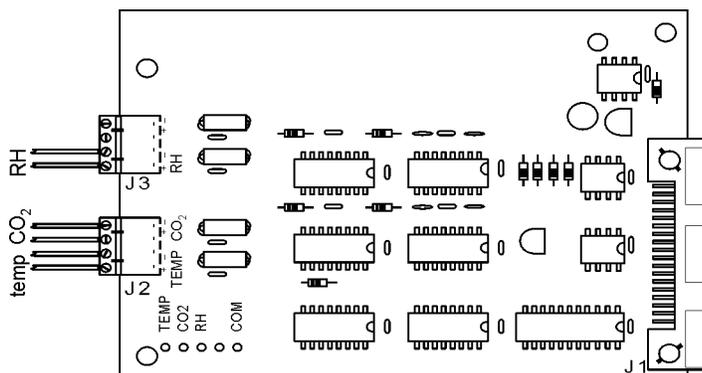

Figure 6-4. Terminals on Analog Board
- Strip the ends of the conductor and wire it to the appropriate terminals of connectors J2 on the analog board. Refer to Figure 6-4.